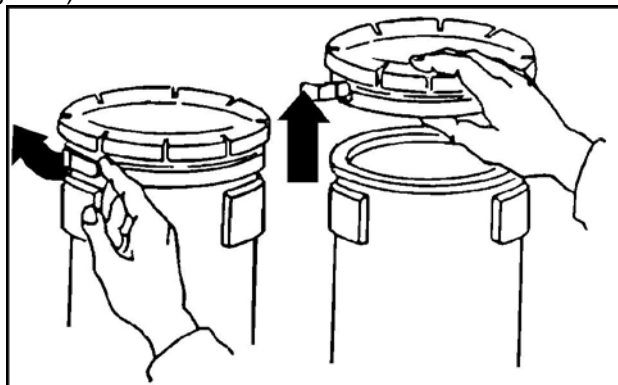

Figure 4. Handling ring.
7. Remove the forward handling ring from the nose end of the TOW. Release the clamp and remove the handling ring (Figure 4).